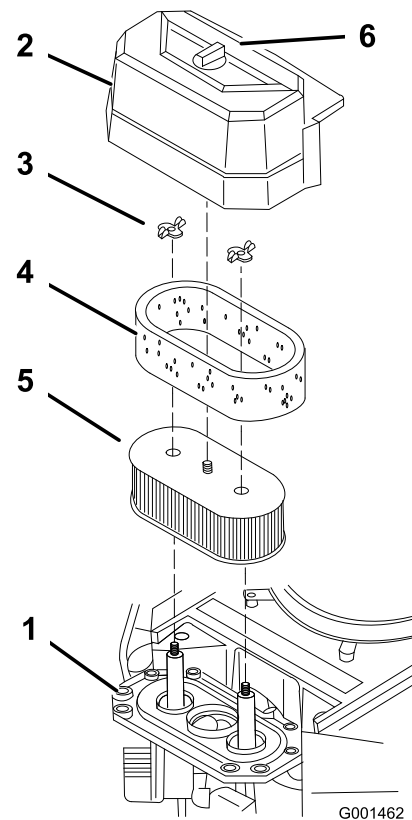

Figure 26
3. Clean around the air cleaner to prevent dirt from getting into the engine and causing damage (Figure 26).
4. Unscrew the cover knob and remove the air cleaner cover (Figure 26).
5. Remove the 2 wing nuts and remove the air cleaner assembly (Figure 26).
6. Carefully pull the foam element off the paper element (Figure 26).
1. Do not clean the paper filter, replace it (Figure 26).
1. Carefully slide the foam element onto the paper air cleaner element (Figure 26).
- Place the air cleaner assembly onto the air cleaner base and secure it with the 2 wing nuts (Figure 26).
- Place the air cleaner cover into position and tighten the cover knob (Figure 26).